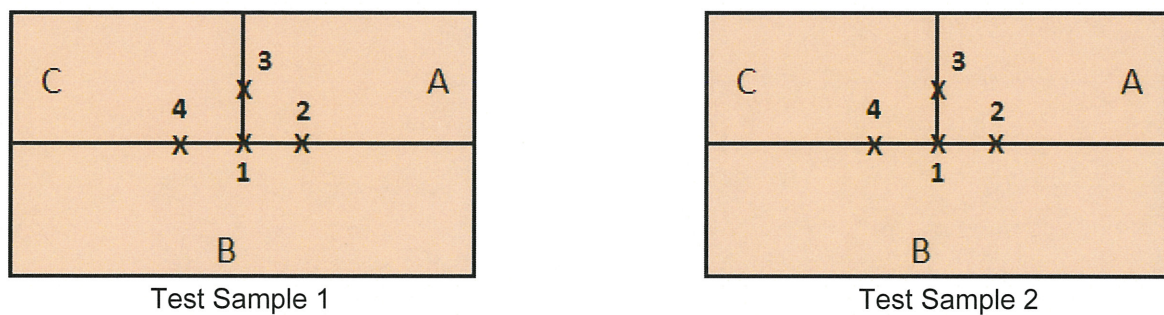

Figure 4: Test positions on the assembled boards - Sample 1 and 2 side by side
6. Mark the test points at 15 mm on the three sides of the central longitudinal marking. See Figure 4.